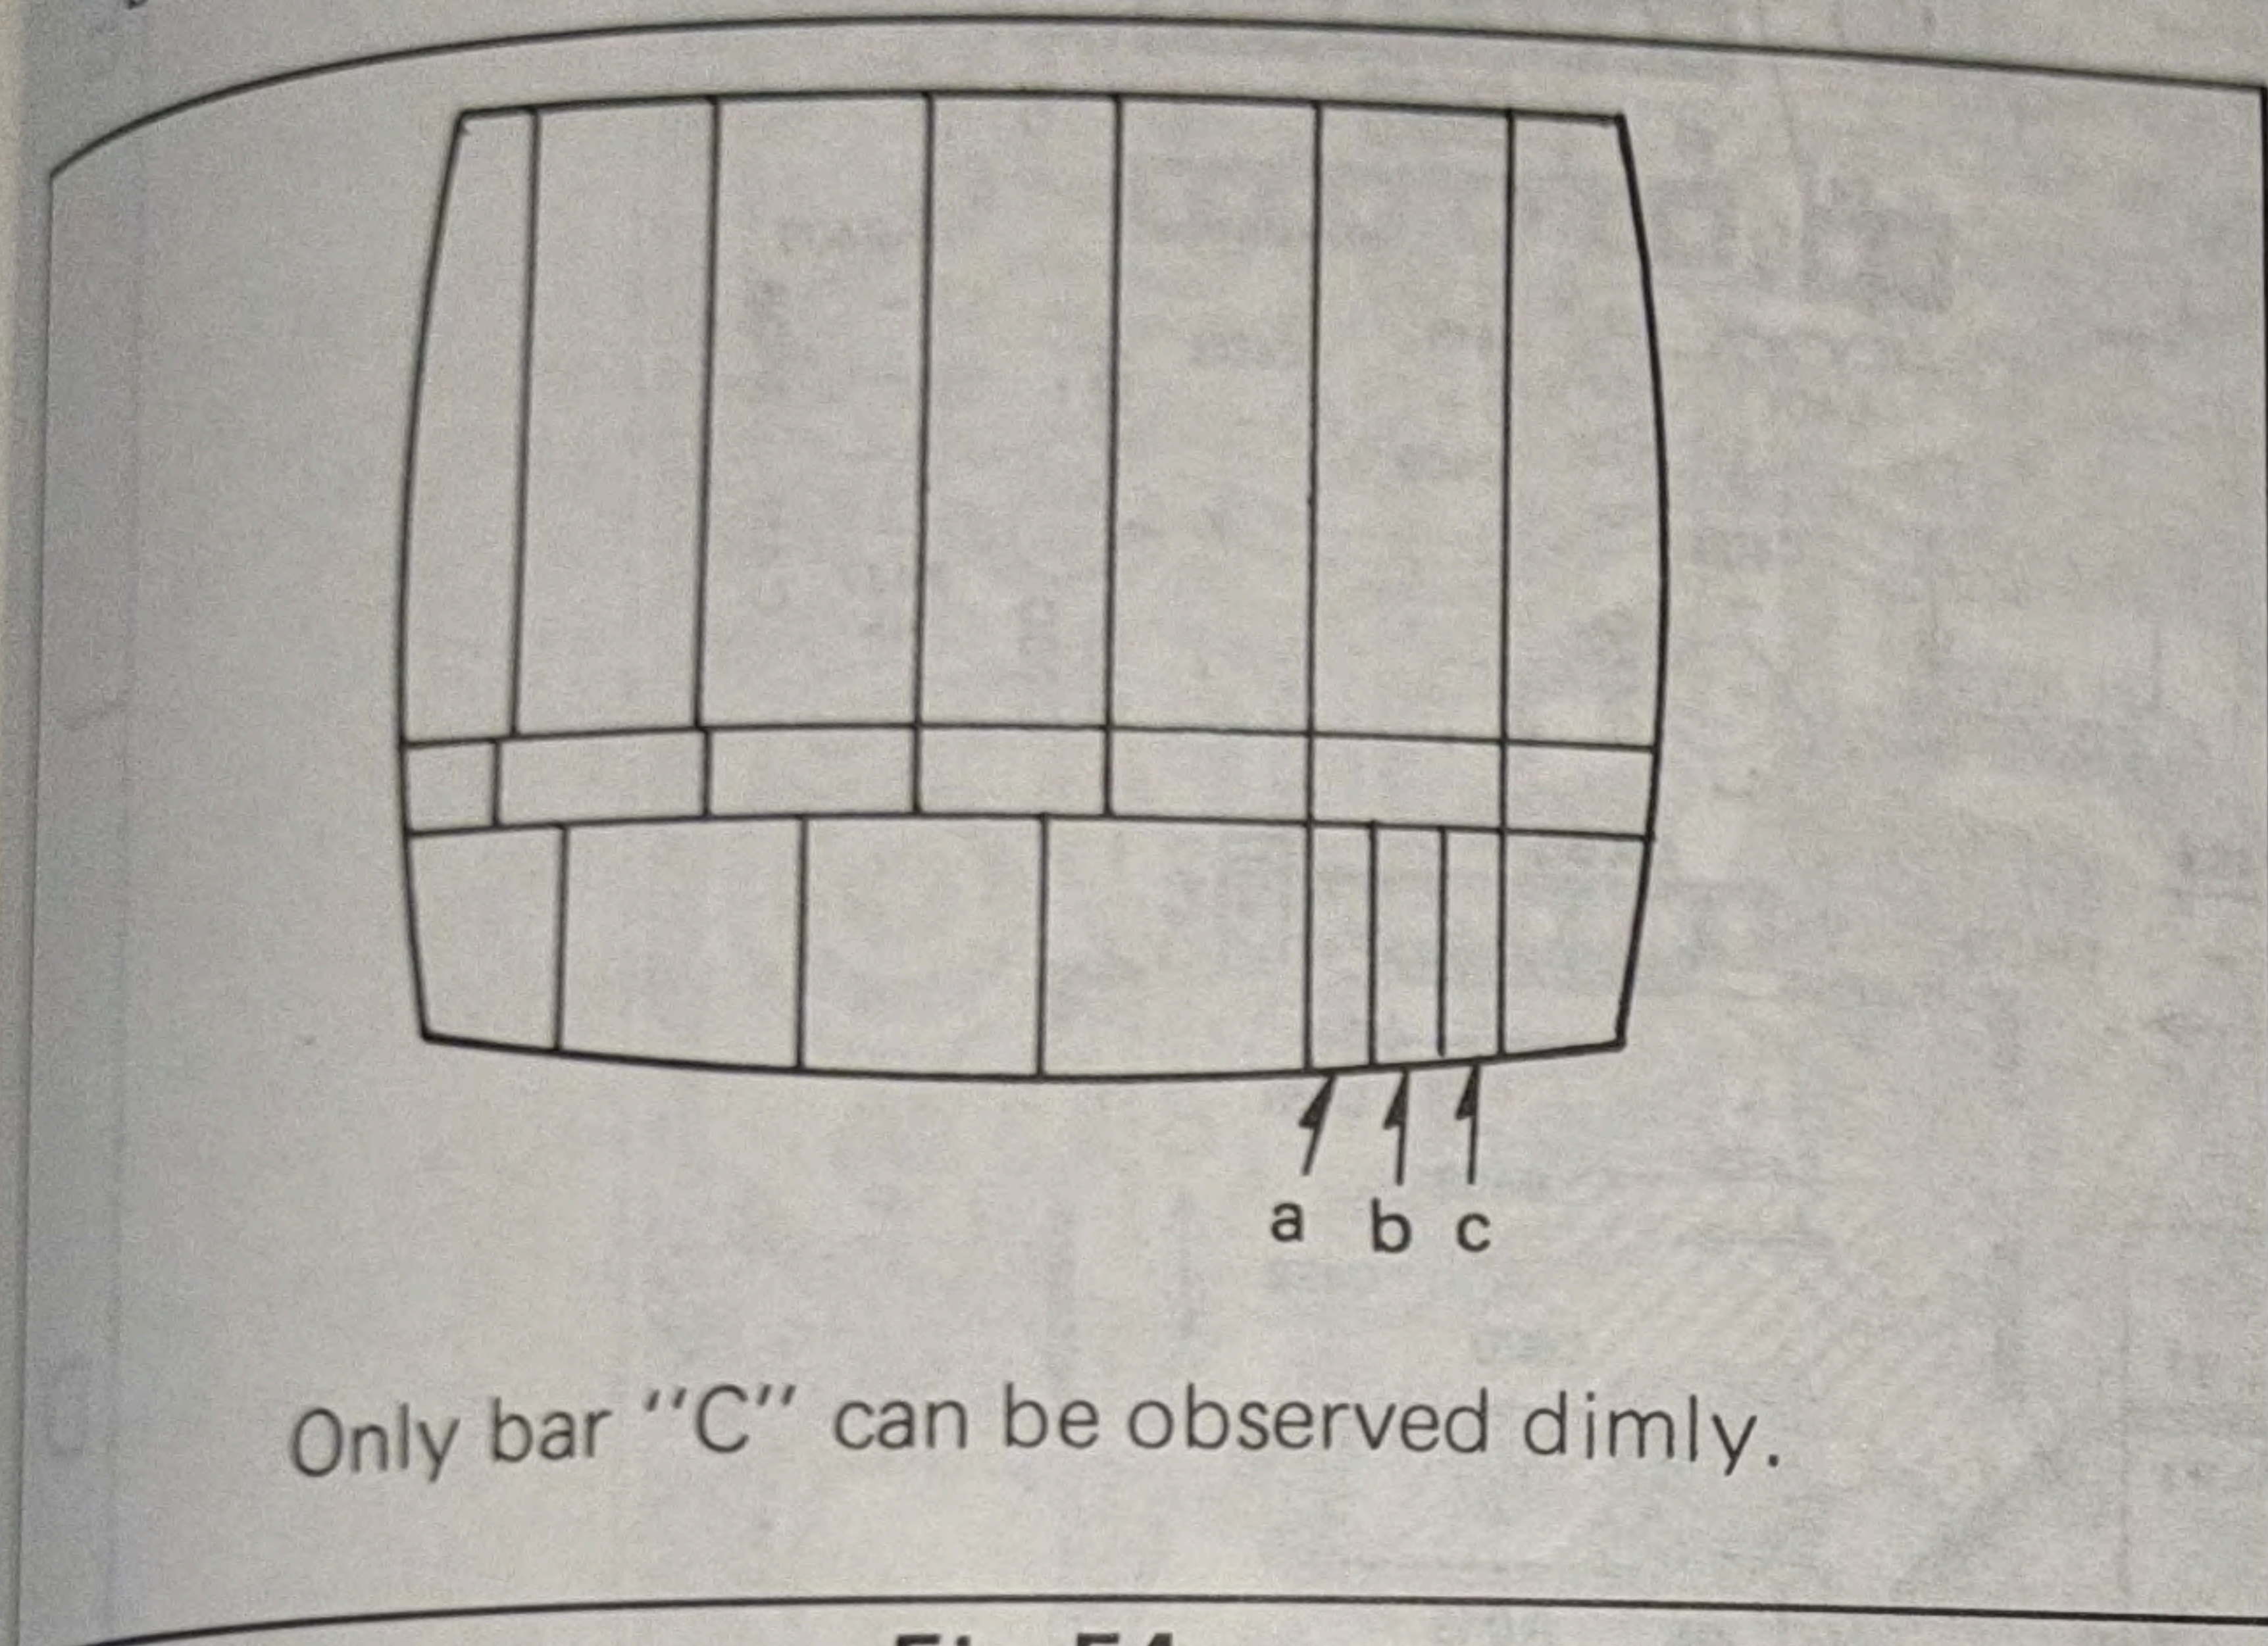

Fig. 54
7. Adjust brightness VR (R5822) so that the brightness at SMPTE color bar pattern (On the displayed) becomes Fig. 54.